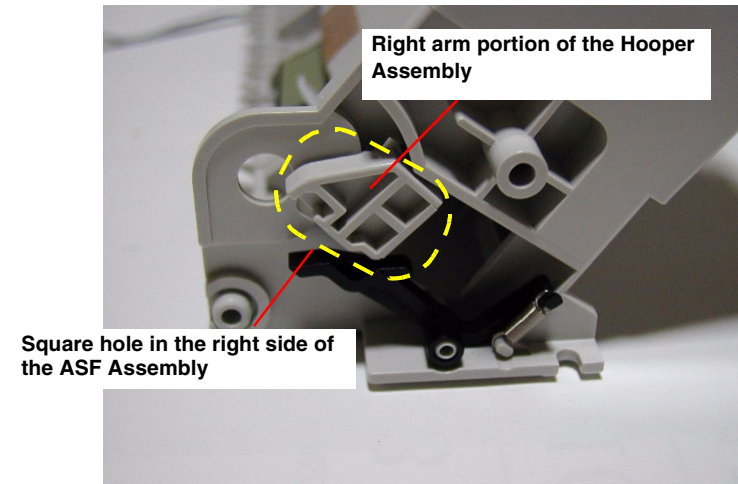

Figure 4-36. Setting the Right Arm of Hopper Assembly
- 6) Set the right arm portion of the Hopper Assembly to the square hole in the right side of the ASF Frame and remove the Hopper Assembly and Compression Spring 2.06 carefully. Refer to Figure 4-36.